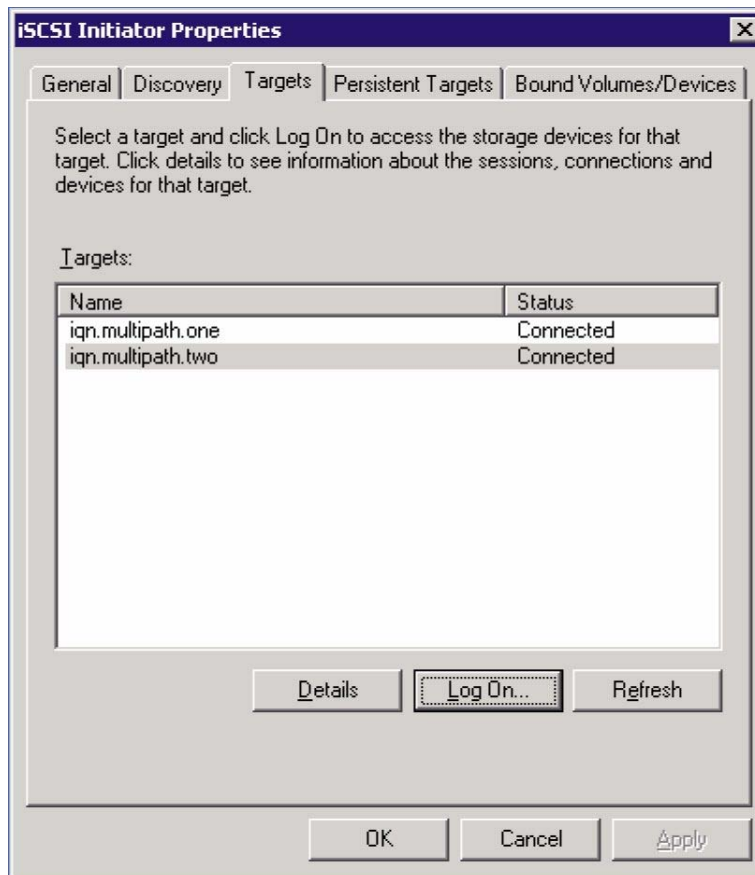

Figure 34 Virtual targets defined for host
1. From the Microsoft iSCSI Initiator Properties window's Targets tab, click **Refresh** (Figure 34). The two virtual targets are listed (one for each C-Series switch).
The Targets tab should now display the status for both storage controllers as Connected (Figure 34).